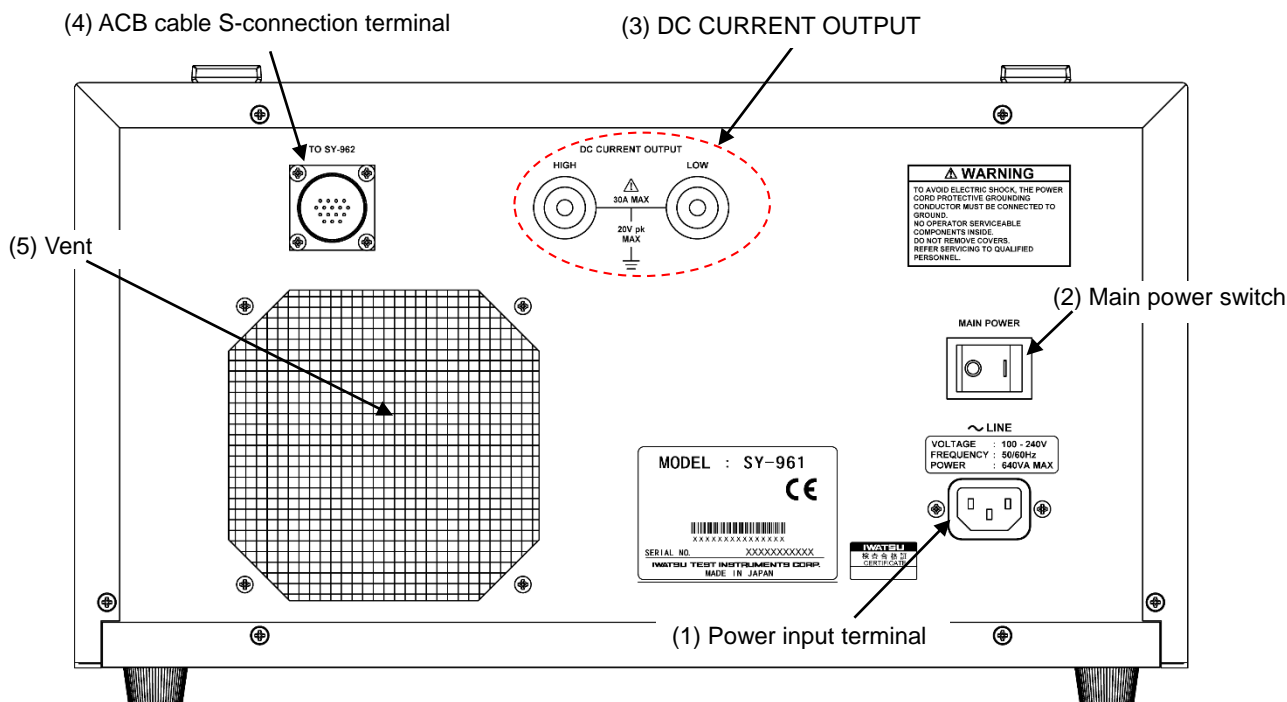

Fig. 3-5 Rear panel of SY-961
- (1) Turn the main power switch in the rear of DC Bias Source SY-961 ON. (See Fig. 3-5)